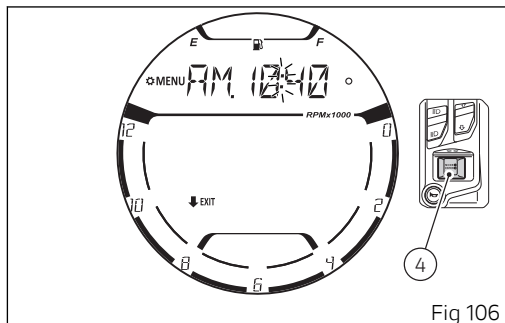

Fig 106
Press button (4) to end the flashing of the minutes and exit the setting mode. Now the instrument panel indicates the time just set (Fig 106).